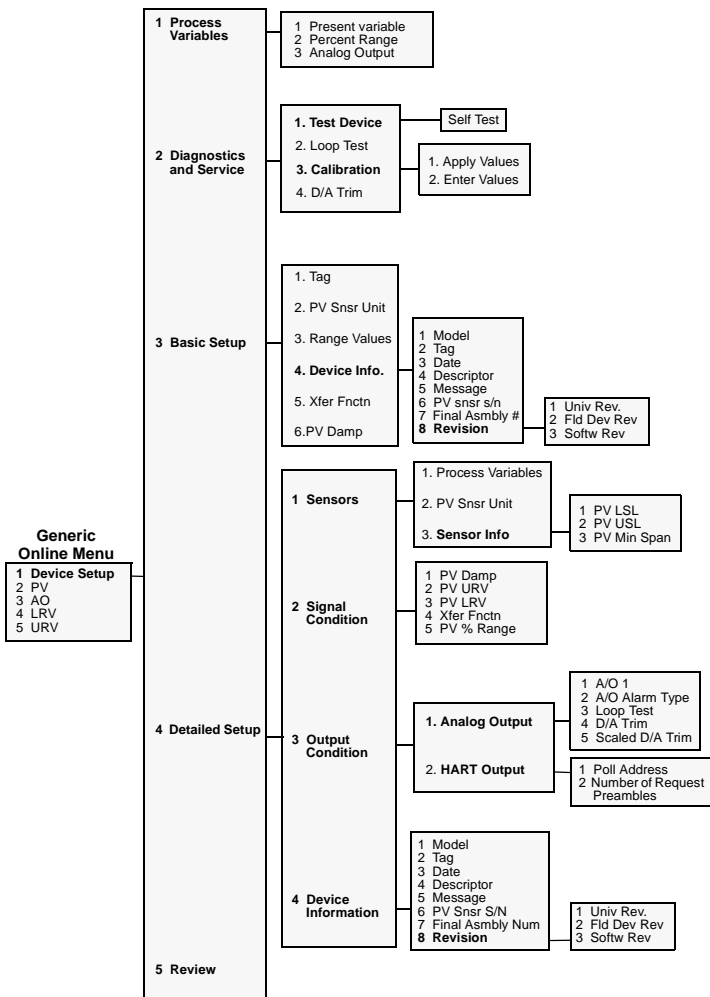

FIGURE 1-22. Generic Online Menu Tree.
**Figure 1-22** shows the Generic Online menu tree.